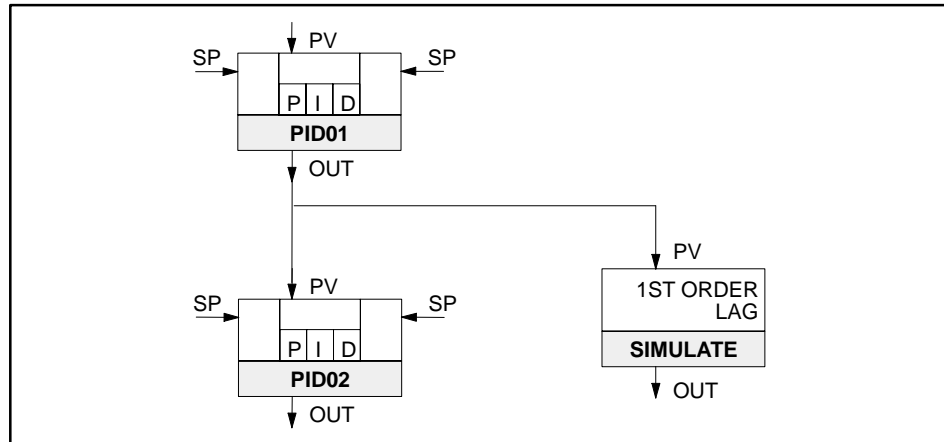

Figure 1-3 Connected CFBs
APT allows you to connect the output of one CFB to the input of another CFB. Figure 1-3 shows two CFBs connected by a connection line.
Graphically, some CFBs (such as the PID blocks in Figure 1-3) appear to have two setpoint (SP) inputs, one on each side of the block; however, these blocks actually have only one setpoint input. The two arrows make it easy for you to connect a line to either side of the block. Because the two input arrows actually represent a single setpoint input, you cannot connect lines to both setpoints.